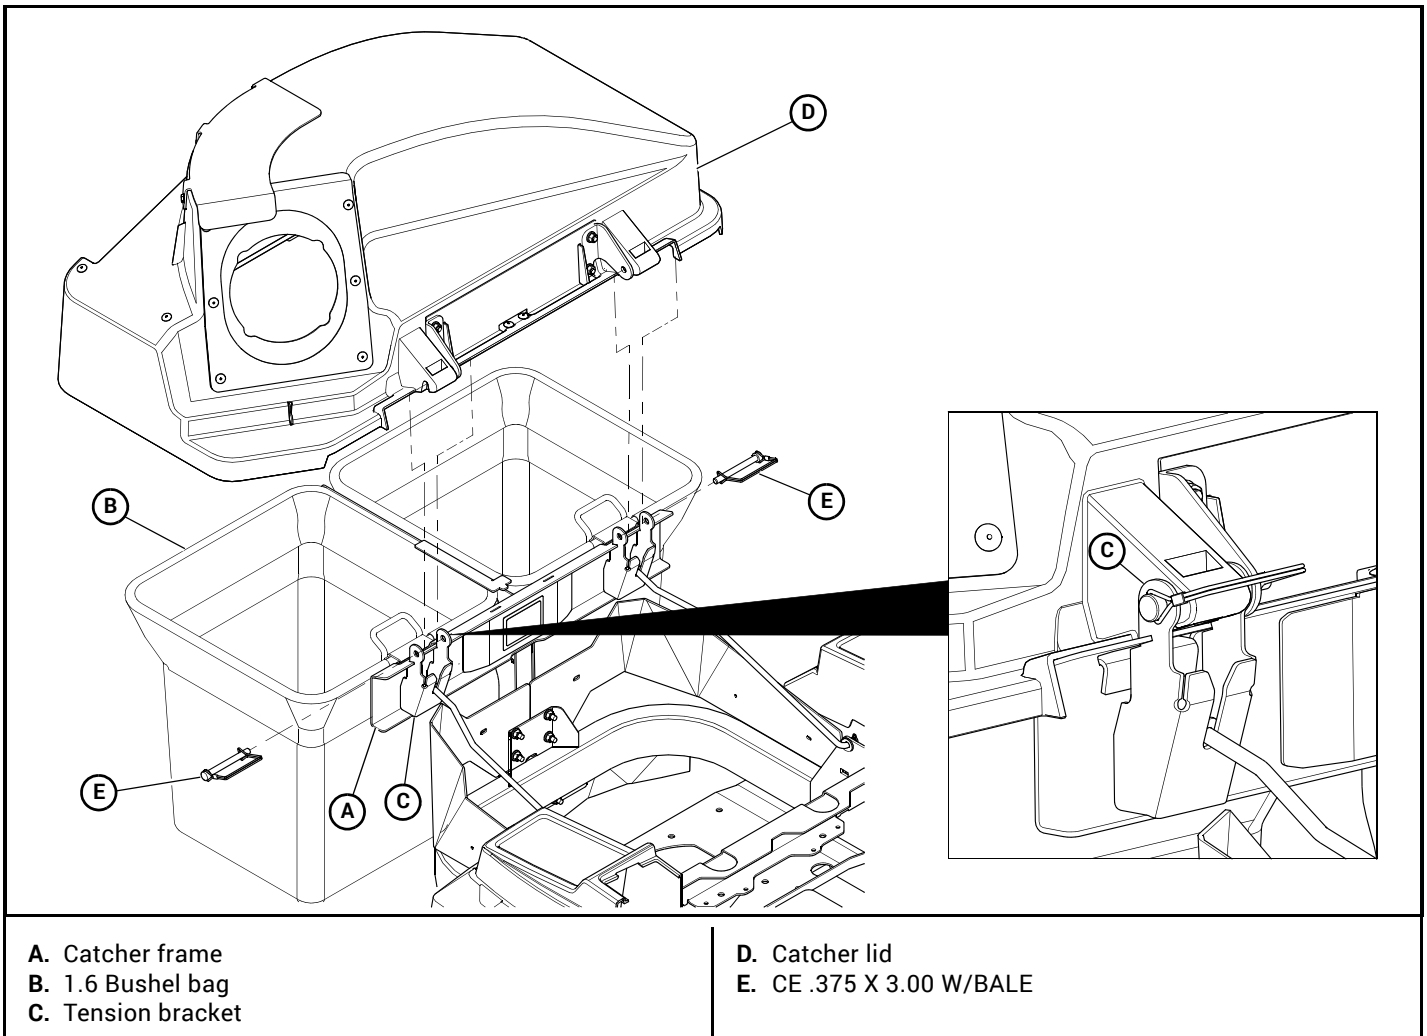

Figure 3-7
12. Attach the catcher lid to the catcher frame with the hardware provided. Close the catcher lid. **NOTE:** It is easier for two people to attach the catcher lid to the catcher frame than it is for one person. Figure 3-7